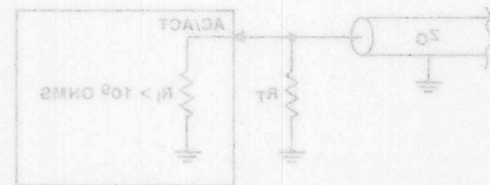

Fig. 30. Line matched by shunt termination resistance  $R_T$  equal to  $Z_0$ . Produces waveforms of Fig. 28 (b).
Fig. 30 illustrates the schematic and waveforms for a series termination ( $R_T + R_i = Z_0$ ). This termination faithfully reproduces the IC output pulse with a delay of  $t_d$  the line coming back to the input from the open (unterminated) end of the line is effectively terminated and no further reflections occur. This series termination is very effective for CMOS because the series resistor  $R_T$  does not limit fanout ( $R_i$  of CMOS is nearly infinite). Series termination for TTL logic has a moderate to disastrous effect on fanout and noise
In the waveform of Fig. 30 (b), there is no series termination resistor ( $R_T = 0$  ohms) and reflections bounce back and forth with the result that there is a peak of about 1 volt somewhere in time depending on the line length. In this case the line length is 8 inches. In Fig. 30 (c) waveforms, a 100-ohm series terminating resistor provides a good quality waveform at the end of the line (B) with all areas under 0.8 volt. The fall time is also good. Note the reflection at the (A) falling edge, which is about 3 nanoseconds out, the round-trip delay for the experimental 8-inch stripline board. In Fig. 30 (b), the 300-ohm series resistor  $R_T$  at A clearly makes  $R_T$  greater than the characteristic impedance  $Z_0$ , and the waveform at B has about 8 nanoseconds of added delay because of the large  $R_T$  delay.
If the only concern were the fidelity of the pulse waveform at the IC input or load end of the interconnection, which is often but not always the case, then a series termination scheme can be used, as shown in Fig. 30 (a). The resultant waveforms are shown in Fig. 30 (b). This figure shows a very good input pulse waveform at the load-end IC. Here, the value of the series resistor  $R_S$  is selected to make  $R_O$  plus  $R_S$  equal to  $Z_0$ . If the output resistance  $R_O$  is 25 ohms and the characteristic impedance  $Z_0$  is 100 ohms, then  $R_S$  is 75 ohms. This approach is called ideal series matching.
Fig. 30 illustrates the schematic and waveforms for a series termination ( $R_S + R_O = Z_0$ ). This termination faithfully reproduces the IC output pulse with a delay of  $t_d$ , the line delay over length  $L$ . In this interconnection, reflections coming back to the input from the open (unloaded) end of the line are effectively terminated and no further reflections occur. This series termination is very effective for CMOS because the series resistor  $R_S$  does not limit fanout ( $R_I$  of CMOS is nearly infinite). Series termination for TTL logic has a moderate to disastrous effect on fanout and noise
In the waveforms of Fig. 30 (b), there is no series termination resistor ( $R_S = 0$  ohms) and reflections bounce back and forth with the result that there is a peak of about 1 volt somewhere in time depending on the line length. In this case the line length is 8 inches. In Fig. 30 (c) waveforms, a 100-ohm series terminating resistor provides a good quality waveform at the end of the line (B) with all areas under 0.8 volt. The fall time is also good. Note the reflection at the (A) falling edge, which is about 3 nanoseconds out, the round-trip delay for the experimental 8-inch stripline board. In Fig. 30 (d), the 300-ohm series resistor  $R_S$  at A clearly makes  $R_S$  greater than the characteristic impedance  $Z_0$ , and the waveform at B has about 5 nanoseconds of added delay because of the large  $R_S C_L$  delay.
Fig. 30 (a) Interconnect configuration showing series termination resistor ( $R_S$ ) for driving from A to B through a stripline bus on a PC board. The ideal waveforms are also shown. (b) Waveforms for unmatched circuit in which there is no series termination ( $R_S = 0$ ) and reflections peak to one volt. (c) Waveforms for circuit using a 100-ohm series termination resistor ( $R_S$ ). Reflections are terminated at PCB-A end. (d) Waveforms for circuit using a 300-ohm series termination resistor ( $R_S$ ). Reflections cause slow signal buildup at A and B ends.